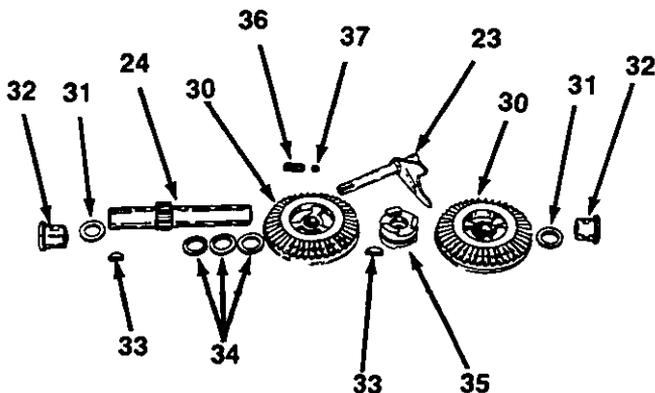

FIGURE 16.
Upon sliding the shaft yoke assembly out of the housing, the detent ball and spring will pop out; take care in not losing them. See figure 16.
14. Disassemble the drive shaft and inspect parts. See figure 16.